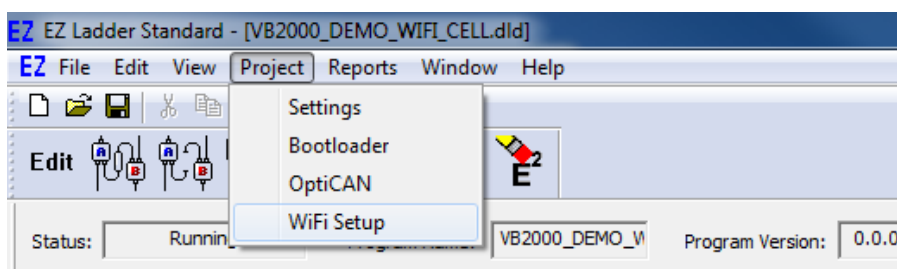

Figure 2-23 - Access WiFi Setup
4. From the menu at the top, select **PROJECT** then select **WiFi SETUP**. Refer to Figure 2-23.